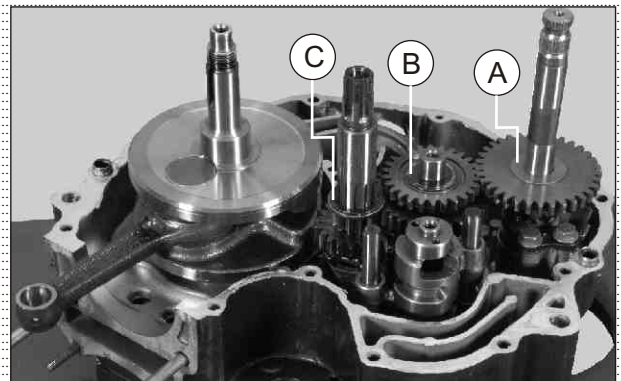

Fig. 3.96
- Take out shim (16x30.5x0.5) (A) from the shaft kick starter. (Fig. 3.96)
- Take out shim (15x30x1) (B) from the shaft complete drive. (Fig. 3.96)
- Take out bearing kick starter driven gear along with the thrust washer and shim (C). (Fig. 3.96)